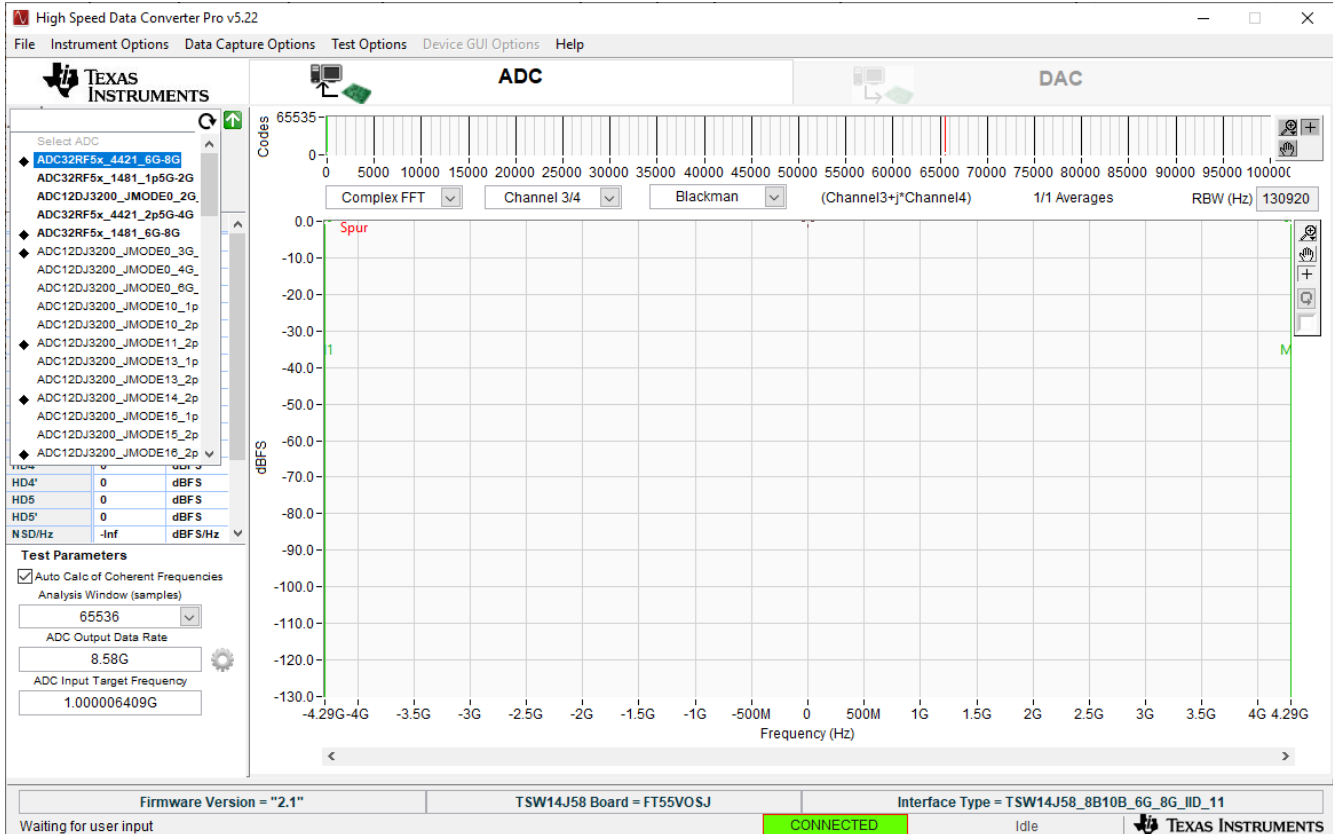

Figure 3-7. ADC32RF5x_4421_6G-8G INI File
8. In HSDC Pro, connect to the TSW14J58EVM and select *ADC32RF5x_4421_6G-8G* as the INI file shown in Figure 3-7.